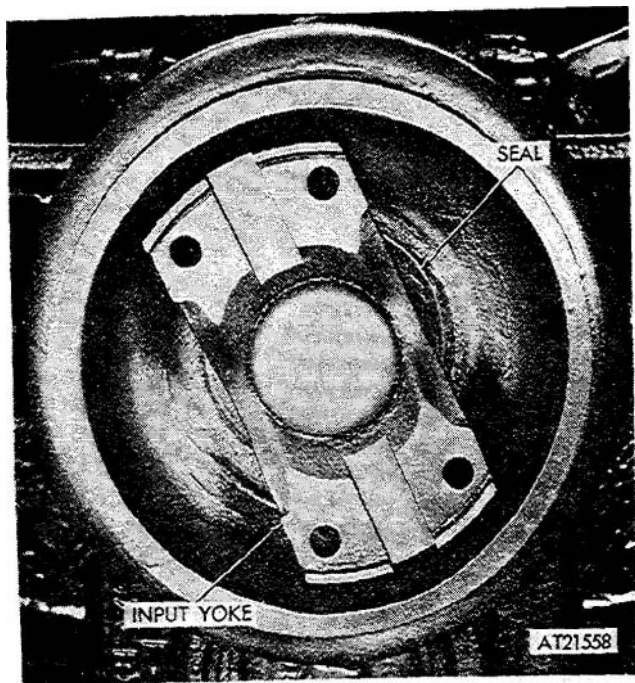

Figure 3-185. Center differential input yoke seal, removal and installation.
(1) Remove center differential (refer to TM 9-2320.242-20).
(2) Remove input yoke (fig. 3-185) from differential.